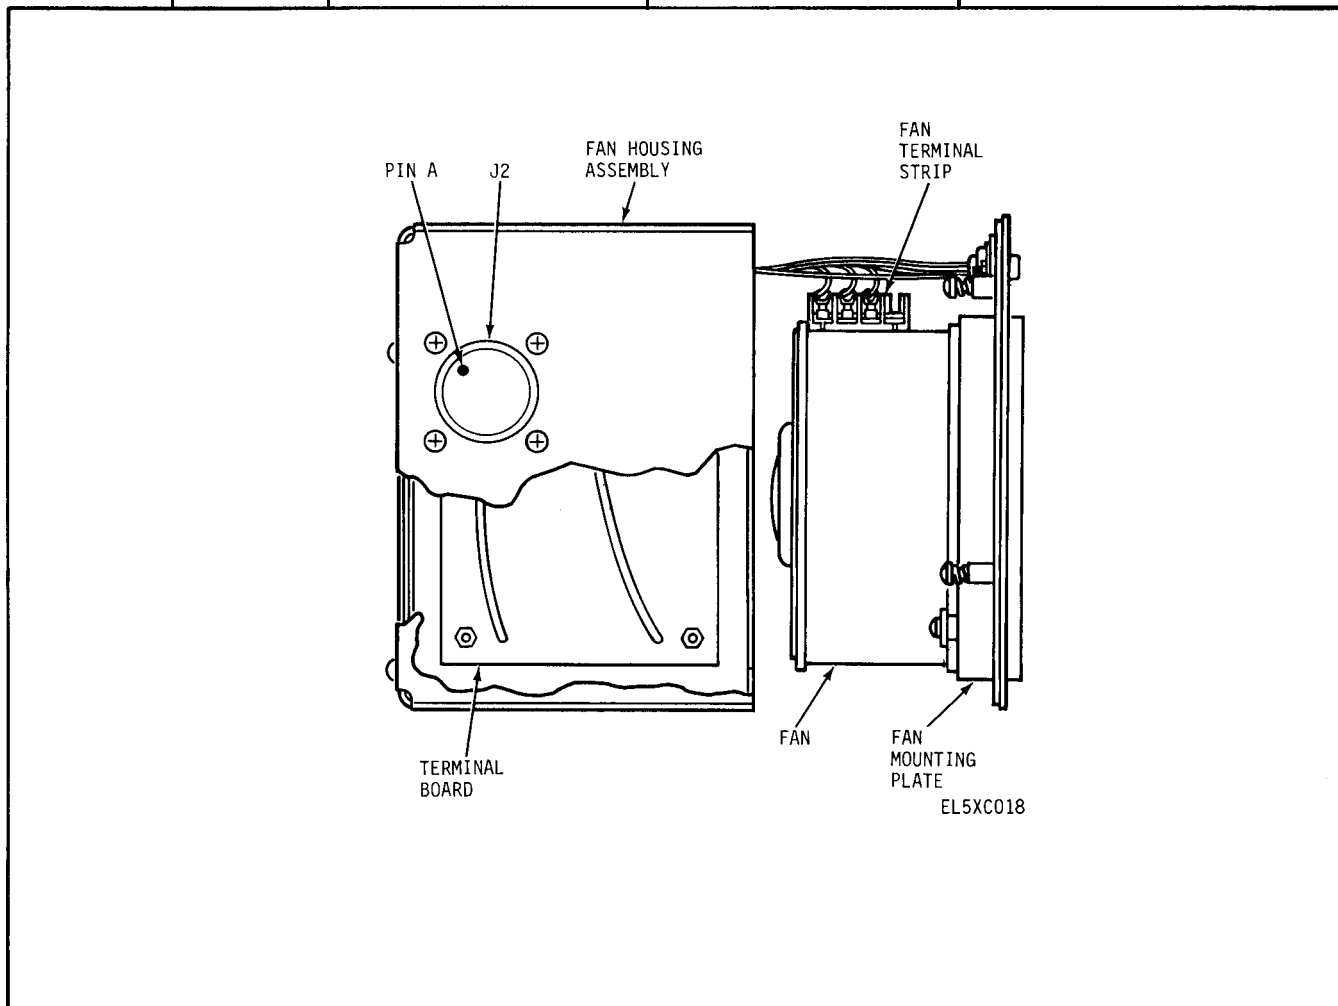

Figure 5-1. Air Cooler Component Location Diagram.
assembly. This procedure will check the internal wiring of the air cooler. Should an open circuit be found, the wiring as well as the printed terminal board should be checked for breaks. The fan is a throw-away item. Figure 5-1 is provided to aid in locating the components of the air cooler.
b. Air Cooler (fig. 5-1)
(b) Remove the three wires from fan terminal strip (fig. 5-1).